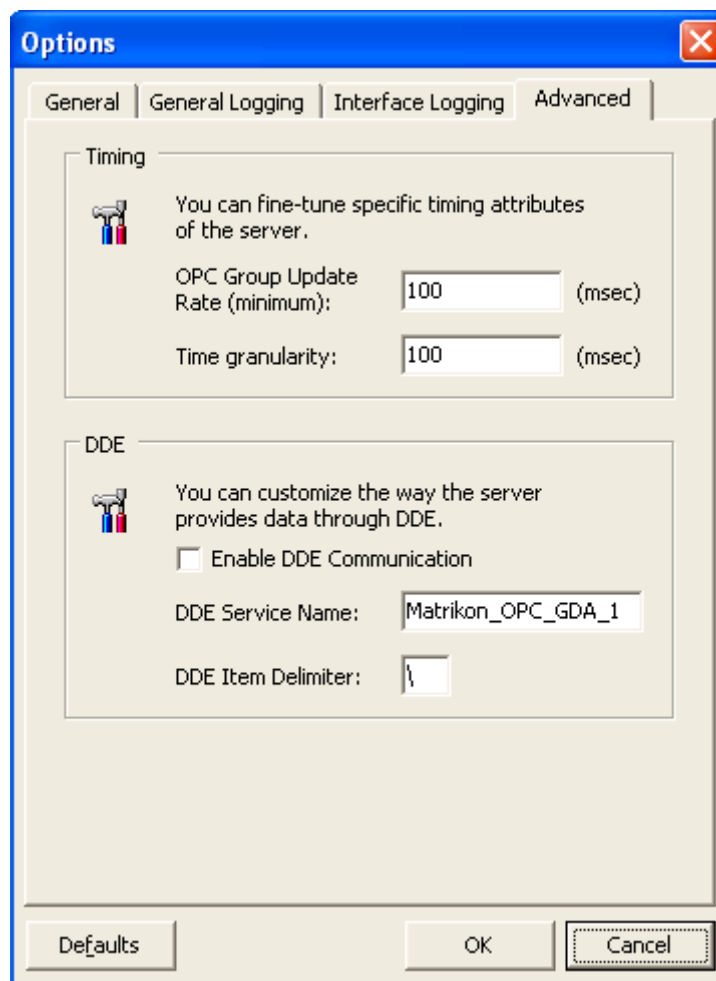

Figure 15 - Advanced Options Tab
3. From the **Options** window, select the **Advanced** tab (Figure 15).